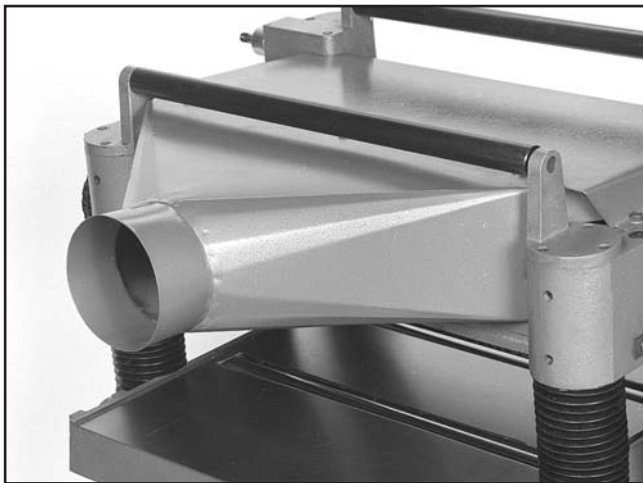

Figure 6. Dust hood attached.
1. Attach the dust hood to the top of the planer with the hex bolts and flat washers, as shown in **Figure 6**.